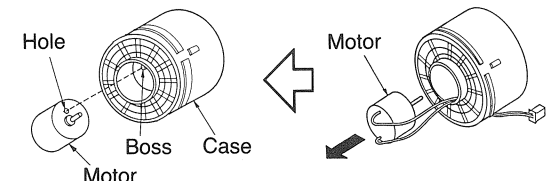

Fig. 4
4. Remove the motor from the case (shown in Fig. 4).